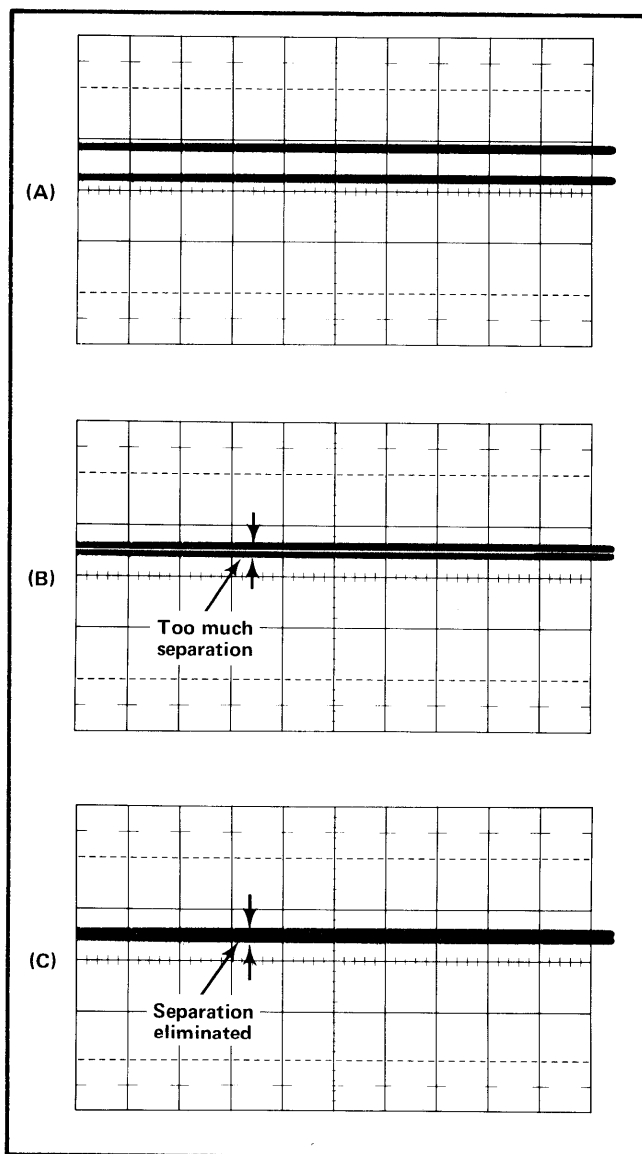

Fig. 5-3. (A) Initial waveform for noise measurement, (B) Too much separation between traces, (C) Desired waveform (Sweep rate 10 μ s/cm, free running).
f. Rotate the generator Amplitude control slowly counterclockwise to just eliminate the dark line between the two traces (refer to Fig. 5-3).